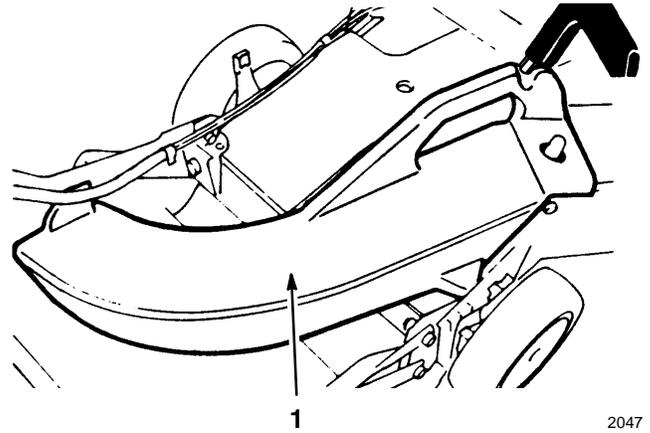

Figure 32
1. **Side Discharge Kit, Model No. 59199**—Installs in seconds. Rear mounted in place of the grass bag or discharge tunnel plug. Disperses clippings while trimming on both sides (Fig. 32).